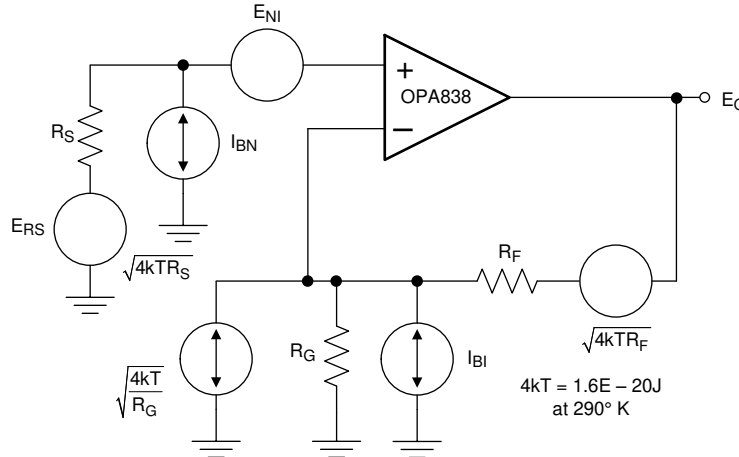
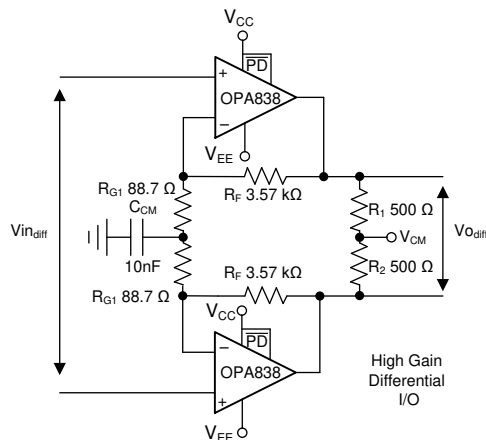

Figure 8-3. Op-Amp Noise-Analysis Model
Figure 8-4. High-Gain Differential I/O Stage
The decompensated voltage feedback of the OPA838 op amp offers among the lowest input voltage and current noise terms for any device with a supply current less than 1 mA. Figure 8-3 shows the op amp noise analysis model that includes all noise terms. In this model, all the noise terms are shown as noise voltage or current density terms in $nV/\sqrt{\text{Hz}}$ or $pA/\sqrt{\text{Hz}}$.
The total output spot noise voltage is computed as the square root of the squared contributing terms to the output noise voltage. This computation is adding all the contributing noise powers at the output by superposition, then taking the square root to return to a spot noise voltage. Equation 3 shows the general form for this output noise voltage using the terms presented in Figure 8-3.
A high-gain differential-to-differential I/O circuit can be used to drive a second-stage FDA or a differential-to-single-ended stage. This circuit is frequently used in applications where high input impedance is required (for example, if the source cannot be loaded). Figure 8-3 illustrates an example design where the differential gain is 41 V/V. An added element between the two R_G resistors increases the noise gain for the common-mode feedback. Make sure to provision for the added element; otherwise, a decompensated VFA (such as the OPA838) often oscillates. With only the R_G elements in the differential I/O design, the common-mode feedback is unity-gain and often causes high-frequency, common-mode oscillations. To resolve this issue, split the R_G elements in half and add a low-impedance path, such as a capacitor or a DC reference, between the two R_G values.
As an example design, start with the circuit in Figure 8-4.
- Assess the DC common-mode biasing on the noninverting inputs. The DC biasing must be in range and have a gain of 1 to the output. This is not illustrated in Figure 8-3.
- If a DC reference is used as the mid- R_G bias, setting the reference equal to the noninverting input bias voltage sets the output common-mode to that voltage. Using a capacitor as illustrated in Figure 8-3 accomplishes the same results.
- Set the total R_G value near the high gain values using Table 8-1. This 178- Ω total must be split for a center tap to increase the common-mode noise gain, as shown by the 88.7- Ω value in Figure 8-4.
The common-mode loop instability without the R_G center tap is not often apparent in the closed-loop differential simulations. The common-mode loop instability without the R_G center tap can often be detected in a common-mode output-noise simulation as Figure 8-5 shows. Grounding the inputs Figure 8-4 and running an output-noise simulation for the common-mode tap point in Figure 8-3 shows a peaking in the noise at high frequency. This peaking indicates low-phase margin for the common-mode loop. Figure 8-5 shows this peaking in the lowest noise curve, with two options for improving phase margin. The first option used in Figure 8-4 is a capacitor to ground set to increase the common-mode noise gain only at higher frequencies. This increase can be seen by the peaking in the common-mode noise of Figure 8-5. Another alternative is to provide a dc voltage reference on the R_G center tap. This method raises the common-mode noise gain from dc and beyond. Neither of these latter two options show any evidence of low phase-margin peaking. These two options do increase the output common-mode noise significantly at lower frequencies. Typically, an increase in output common-mode noise is more acceptable than low-phase margin because the next stage (FDA, ADC, differential to single stage) rejects common-mode noise.